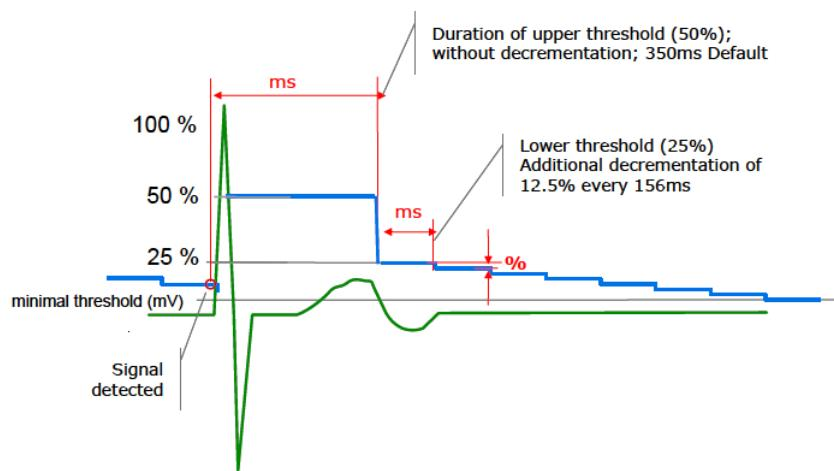

Figure 73: Automatic Sensitivity Control (ASC) with standard sensitivity (right ventricle)
Figure 73 illustrates ASC with the Standard sensitivity programmed. The R-wave is tracked and determined to be 8.0 mV at its peak. The amplitude is measured in the first 110 ms of detection of the complex. Following the sensed event the upper threshold (UT) is set to 4.0 mV (i.e., 50% of the measured R-wave). After the Upper threshold duration after sensing, the device decreases sensing to the lower threshold (LT). It remains at the lower threshold for 156 ms and then decrements 12.5% every 156 ms afterward. However, the minimum threshold (i.e., maximum sensitivity) is never violated.